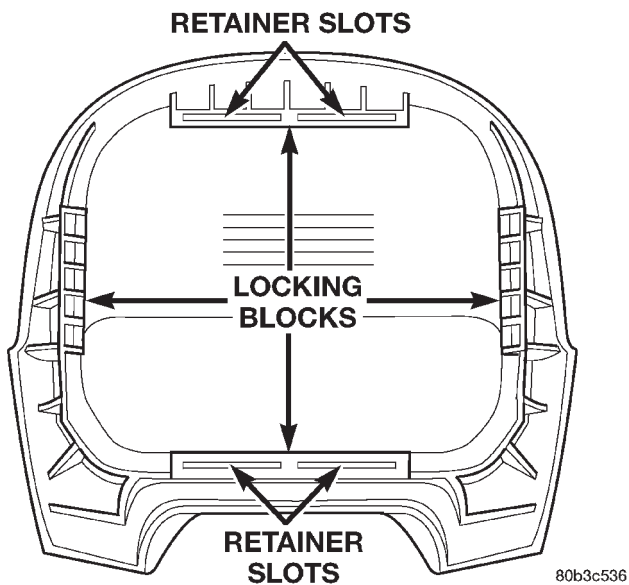

Fig. 7 Driver Side Airbag Trim Cover Remove/Install INSTALLATION
(7) Disengage the four trim cover locking blocks from the lip around the outside edge of the driver side airbag housing and remove the housing from the cover (Fig. 7).
(3) Install the horn switch ground wire eyelet over the upper airbag housing stud.
(4) Install the upper and lower airbag trim cover retainers over the airbag housing studs. Be certain that the tabs on each retainer are engaged in the retainer slots of the upper and lower trim cover locking blocks (Fig. 7).
(5) Install and tighten the trim cover retainer mounting nuts on the airbag housing studs. Tighten the nuts to 6.8 N·m (60 in. lbs.).
(6) Install the horn switch feed wire connector retainer into the mounting hole in the upper trim cover retainer.
(7) Install the driver side airbag module onto the steering wheel. Refer to **Driver Side Airbag Module** in the Removal and Installation section of this group for the procedures.